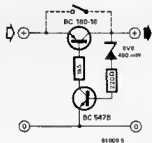

Figure 5. This circuit will avoid an excessive discharge by switching the battery off when a cell voltage of 1.20 is reached.
0.6 V higher than the maximum charge voltage. To enable the batteries to be recycled for as long as possible an excessive discharge must be avoided. This can be achieved by the circuit in figure 5, which switches the battery off when a voltage of about 1.2 V per cell is reached.